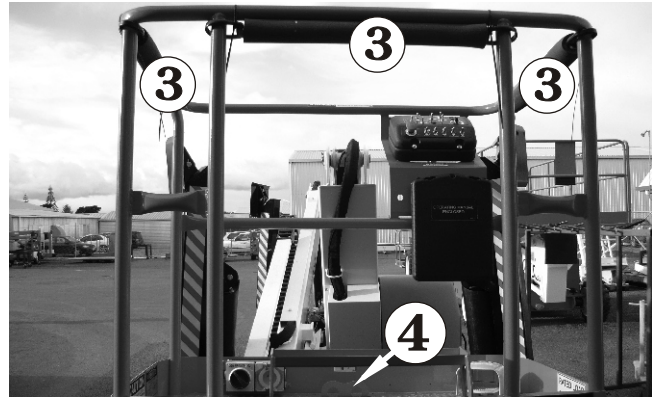

Figure 8.9
- Enter the platform, close the gravity gate ③, and attach the lanyard of your fall restraint (safety harness) to one of the anchor points ④ (see Figure 8.9).